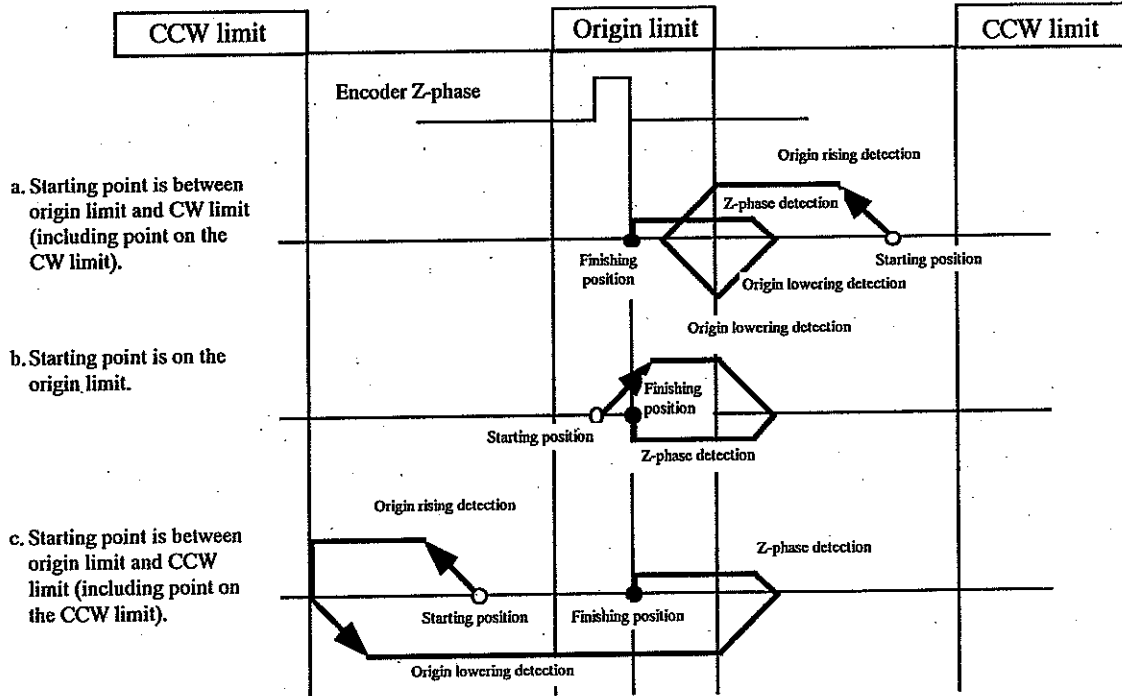

Fig. 12-3 Origin return operation specification
- (1) Operation specification for the origin return is shown in Fig. 12-3 Origin return operation specification (Page 47).
- (2) If the error limit signal is input during executing the origin return command, Origin return error (51) will be generated and the motor will be stopped by activating the protection function of the position driver.
- (3) Origin offset can be set by a parameter. For details, refer to section 12-8-1 "Origin return offset function" (Page 56).
- (4) For the origin vicinity input, wiring should be performed to connect to COM- at the position before 180 degrees from Z-phase.
- (5) In case of starting the origin return operation from greatly closer position to the origin sensor, note that maximum 1 rotation is found when detecting the last transition of the origin sensor.